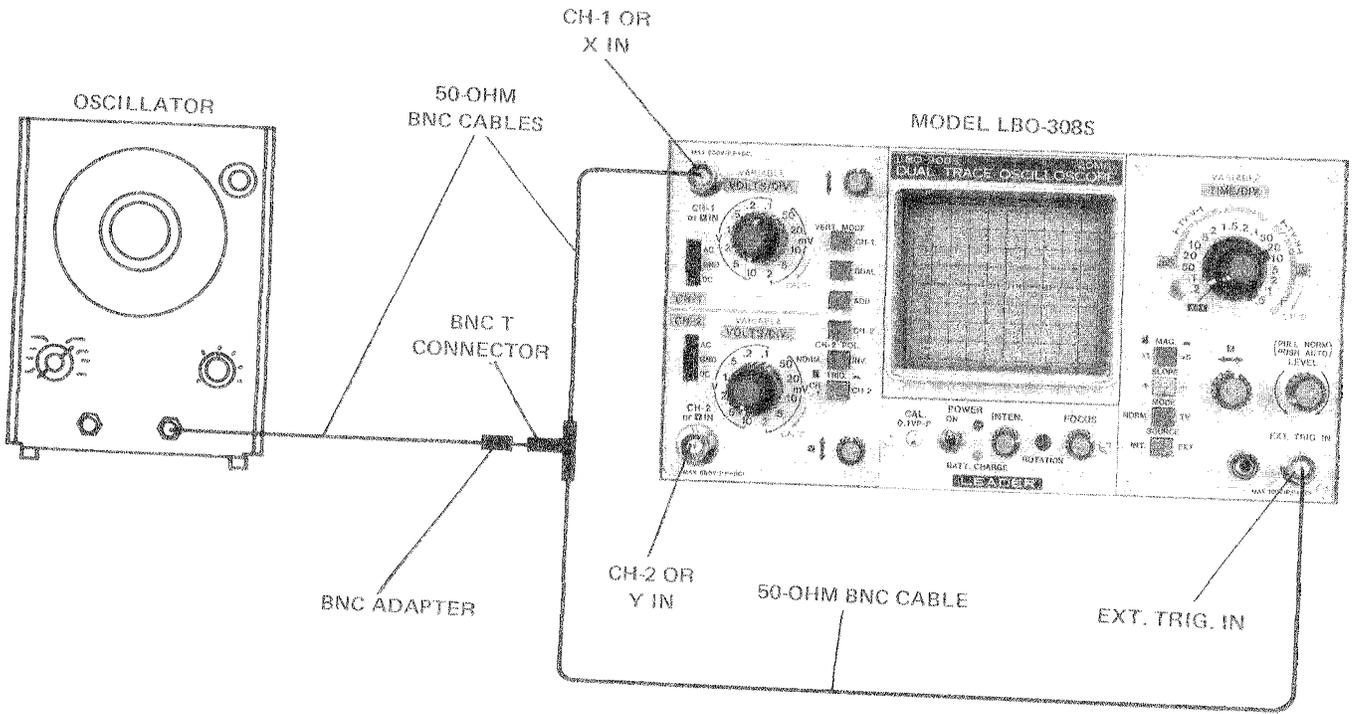

Figure 3-3. 50-Hz Triggering Test Setup
- a. Connect equipment as shown in Figure 3-3.